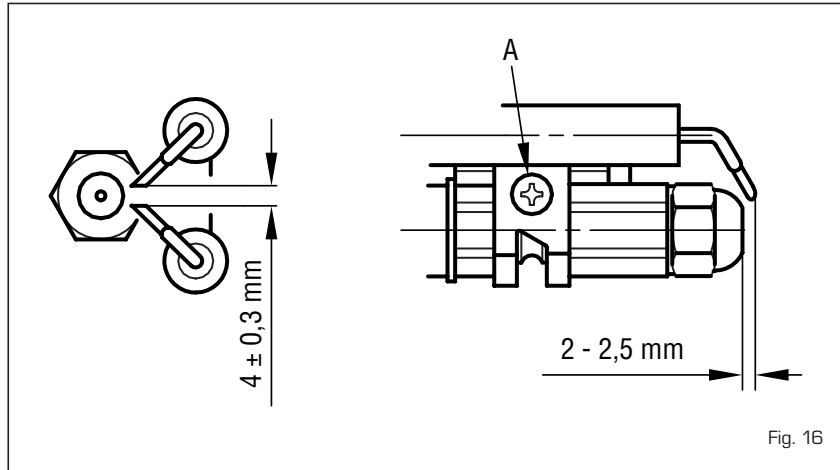

Fig. 16
The combustion head is cleaned in the following manner (fig. 16):
- Loosen the fixture screw [A fig. 16] of the electrodes support and remove it.